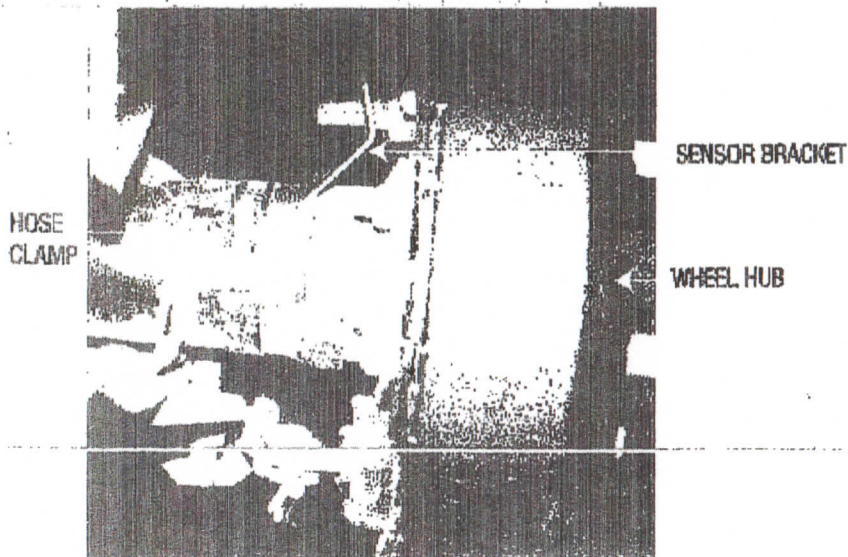

Figure 3.
9. Secure the sensor bracket with the hose clamp. Wrap the hose clamp around the axle and over the sensor bracket. Tighten the hose clamp until secure. (See Figure 3.)